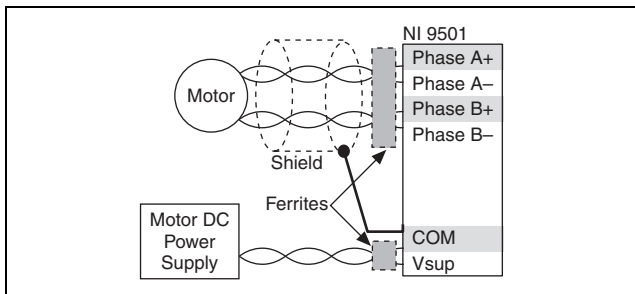

Figure 11. NI 9501 Cable Connection
- Install a clamp-on ferrite bead onto both the motor cable and Vsup cable, as shown in Figure 11. Power to the module must be off when adding ferrites.
Note The wire connecting the motor cable shield to COM bypasses the ferrite as shown in Figure 11.